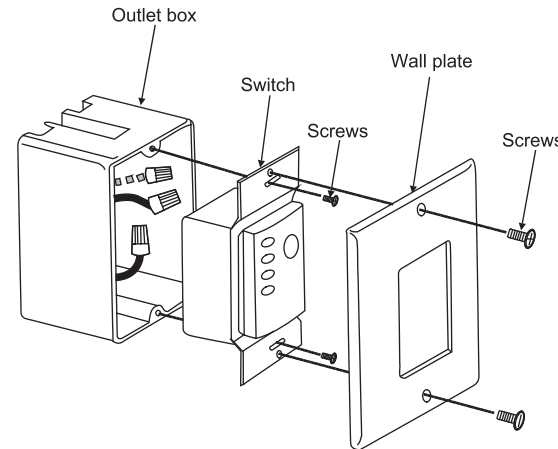

Fig. 24
Step 2. Install the wall plate on the existing wall outlet box using the screws provided. (**Fig. 24**)